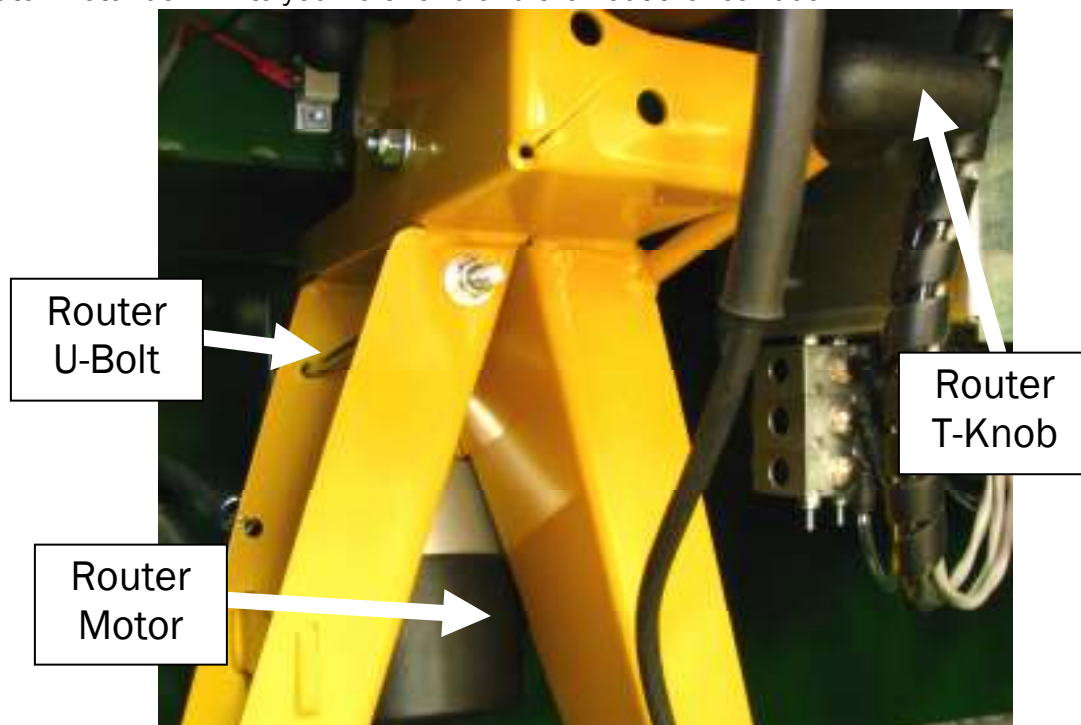

Figure 9
1. Open the rear door and locate the Drill Motor. Just to the right is a T-Knob that tightens a large U-Bolt holding the Router Motor in place. **See fig. 9.**